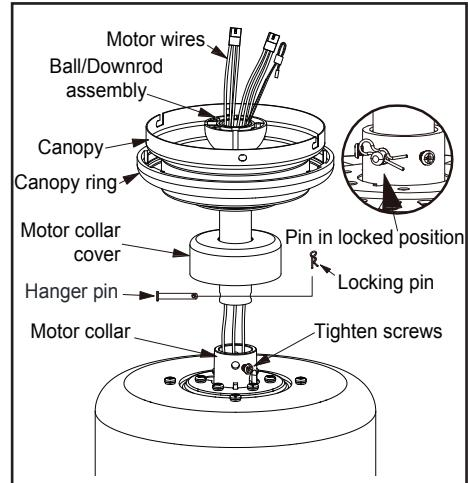

Figure 7
4. Place downrod over canopy and canopy ring, slide the motor collar cover onto the downrod. Route the wires through the ball/downrod assembly. (Figure 7)
6. Align the holes at the bottom of the downrod with the holes in the collar on top of the motor housing. (Figure 7) Carefully insert the hanger pin through the holes in the collar and downrod. Be careful not to jam the hanger pin against the wiring inside the downrod. Insert the locking pin through the hole near the end of the bolt until it snaps into its locked position, as noted in the circle inset of Figure 7.